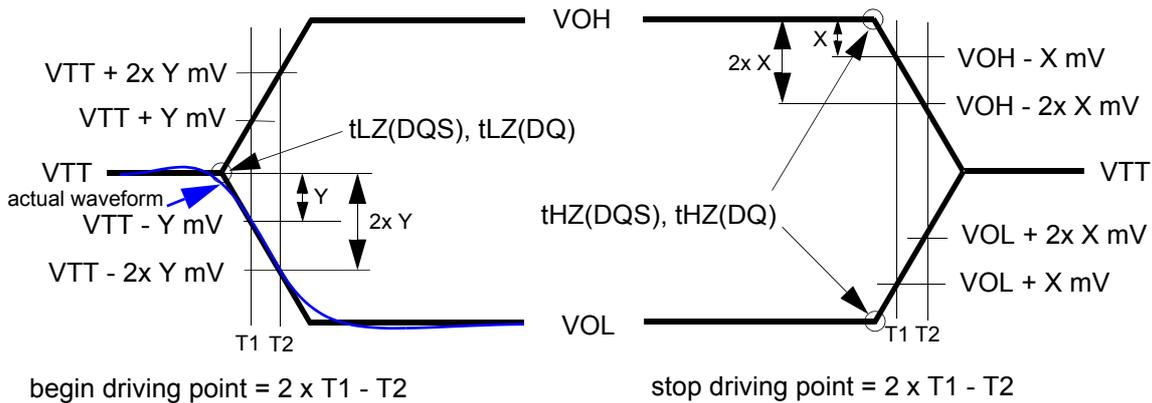

Figure 15. HSUL_12 Driver Output Reference Load for Timing and Slew Rate
- 12) For low-to-high and high-to-low transitions, the timing reference will be at the point when the signal crosses V_{TT}. t_{HZ} and t_{LZ} transitions occur in the same access time (with respect to clock) as valid data transitions. These parameters are not referenced to a specific voltage level but to the time when the device output is no longer driving (for t_{RPST}, t_{HZ}(DQS) and t_{HZ}(DQ)), or begins driving (for t_{RPRE}, t_{LZ}(DQS), t_{LZ}(DQ)). Figure 15 shows a method to calculate the point when device is no longer driving t_{HZ}(DQS) and t_{HZ}(DQ), or begins driving t_{LZ}(DQS), t_{LZ}(DQ) by measuring the signal at two different voltages. The actual voltage measurement points are not critical as long as the calculation is consistent.